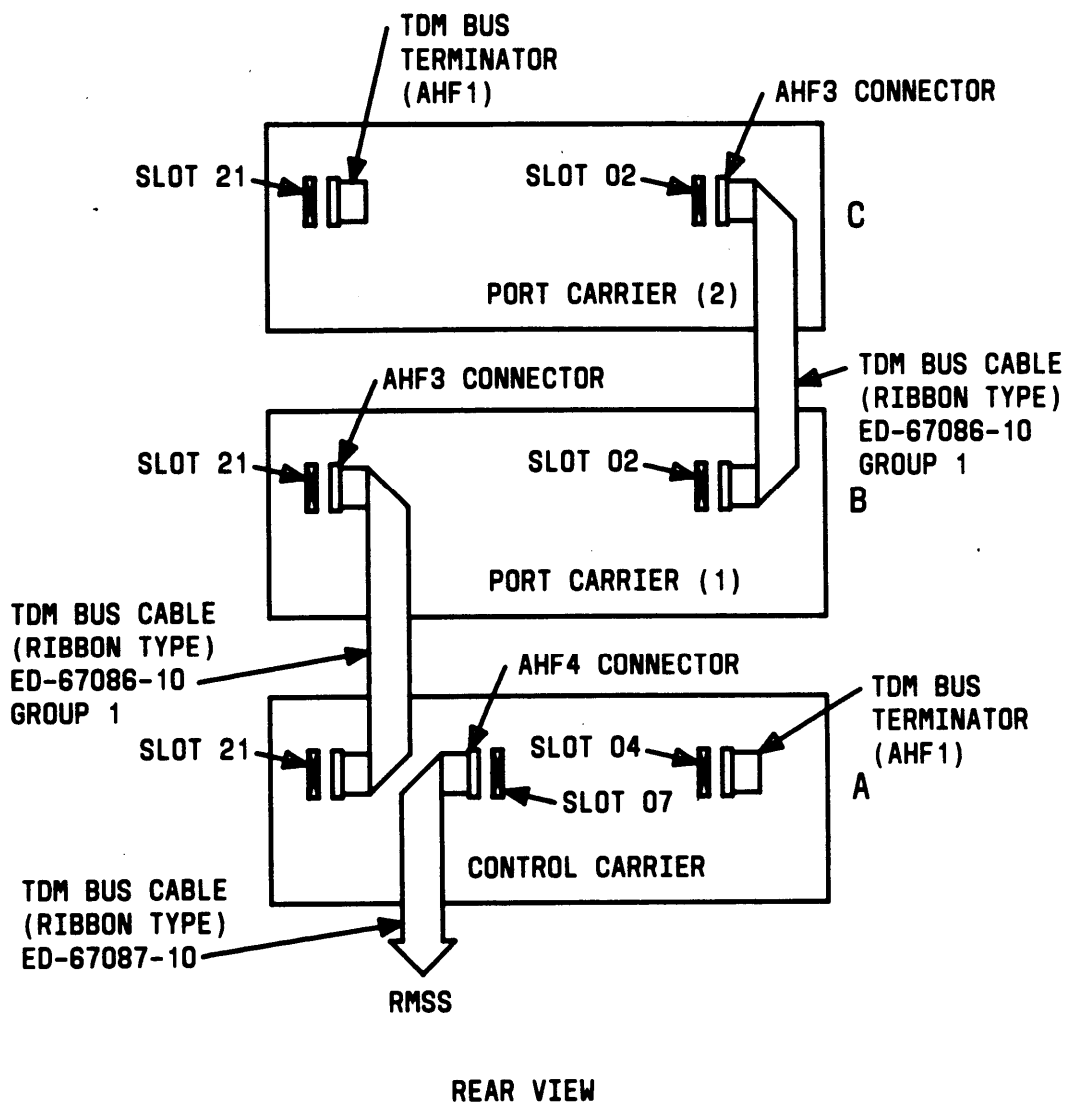

Figure 22. Medium Cabinet TDM Bus Wiring Diagram
- Move the bus terminator from port carrier B, slot 02 to port carrier C slot 21. If the terminator is not provided, use the one from the small cabinet (Figure 22).
- Connect TDM bus cable (removed from small cabinet) from port carrier B, slot 02 to port carrier C, slot 02 (Figure 22).